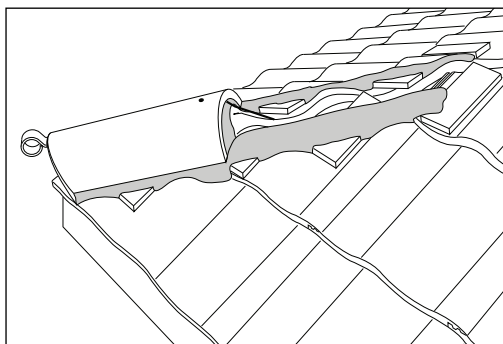

Fig 16 – First hip tile bedded and supported with tile slips and mechanically fixed
- 6 Edge and solid bed hip tiles continuing along length of hip (Fig 16).